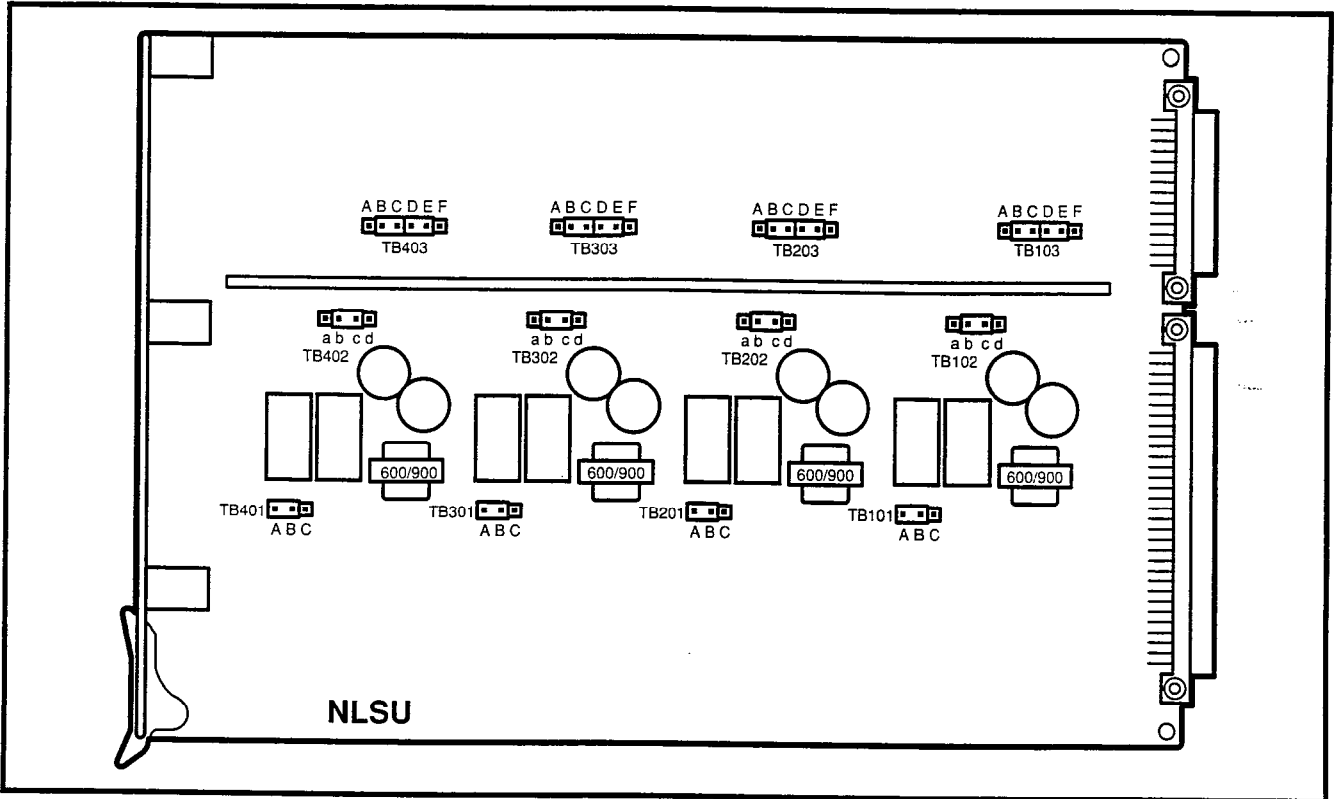

FIGURE 4-20—NLSU STRAPPING
3.74 Three separate strappings must be made for each of the four circuits on the NLSU PCB (Figure 4-20).